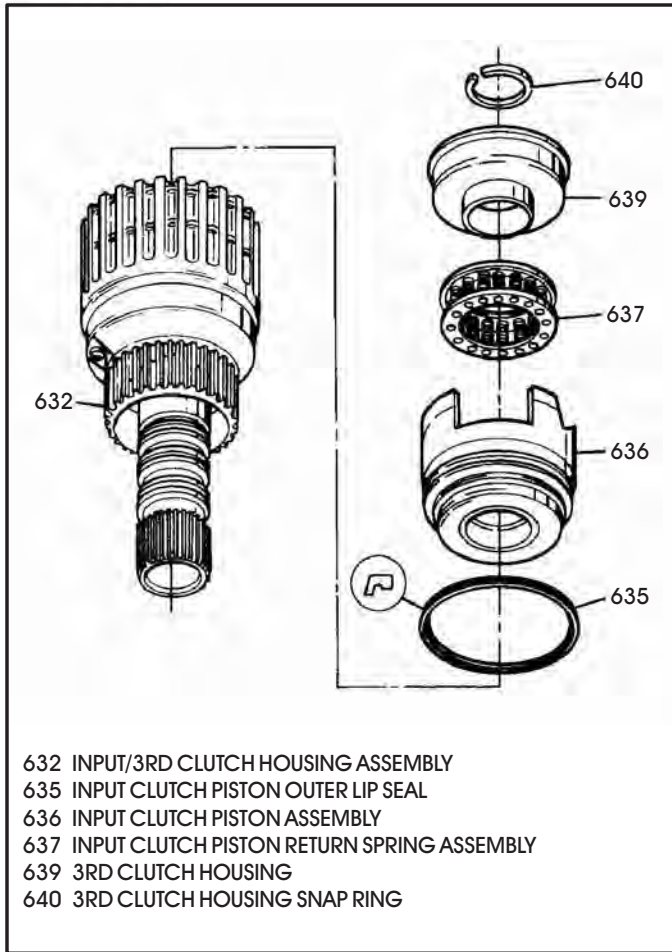

Figure 118
9. Install a new lip seal into groove in the input clutch piston, with the lip facing down, as it is shown in Figure 118.
11. Install the input clutch piston assembly into the input/3rd clutch housing with a rotating motion (See Figure 118).
12. Install the input clutch piston return spring into input/3rd clutch housing, on top of piston, as shown in Figure 118.
13. Install the 3rd clutch housing into input/3rd clutch housing using care not to damage the "O" ring seal (See Figure 118).